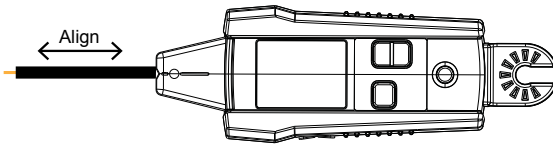

Figure 3.1f
3. For best results while tracing energized wires, align groove on tip sensor with wire direction as shown (see figure 3.1f/g). Signal may be not detected if not properly aligned. To verify wire direction, periodically rotate AT-6000-RE 90 degrees. Signal strength will be the highest when wire is aligned with Tip Sensor groove. Depending on the detected signal, the AT-6000-RE automatically switches to either Energized (⚡) or De-energized (⚡ with slash) mode, and displays this information on the LCD. No manual setup is necessary.
3. For best results while tracing energized wires, align groove on tip sensor with wire direction as shown (see figure 3.1f/g). Signal may be not detected if not properly aligned. To verify wire direction, periodically rotate AT-6000-RE 90 degrees. Signal strength will be the highest when wire is aligned with Tip Sensor groove. Depending on the detected signal, the AT-6000-RE automatically switches to either Energized ⚡ or De-energized ⚡ mode, and displays this information on the LCD. No manual setup is necessary.